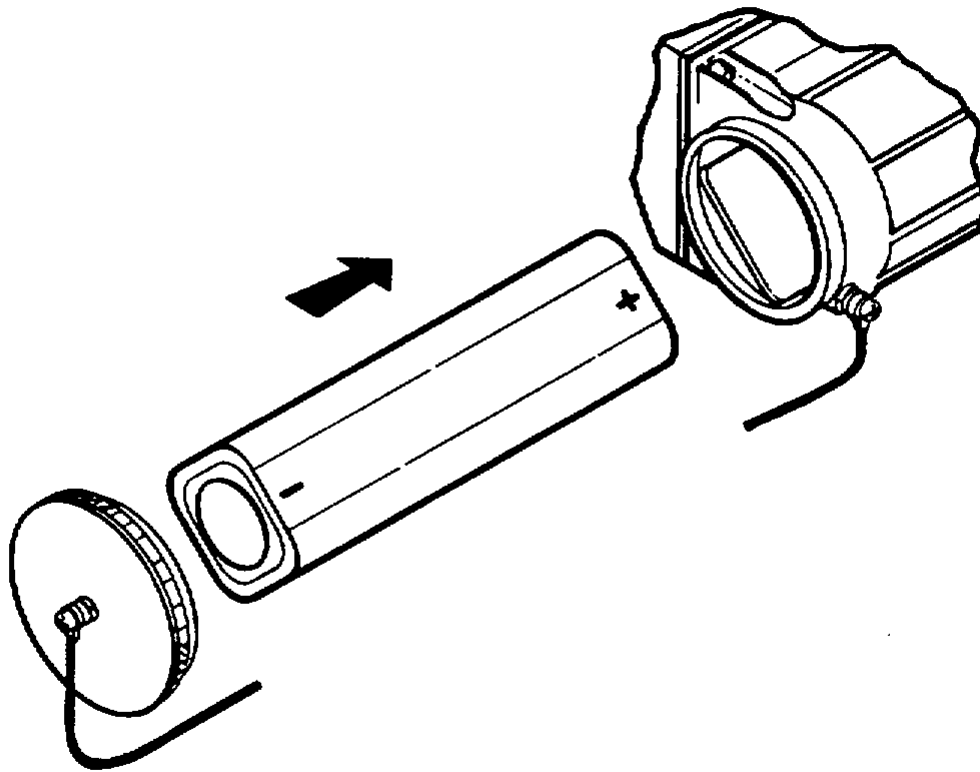

Figure 3-1. Battery Replacement
- Dampen a folded lens cleaning tissue (item 2, App C) with lens cleaning compound (item 1, App C). Lightly and slowly wipe the lens. After one stroke, discard tissue. Repeat this procedure until the glass surface is clean.
c. Replacement of Battery (Figure 3-1).
- (1) Remove:
(2) Install: